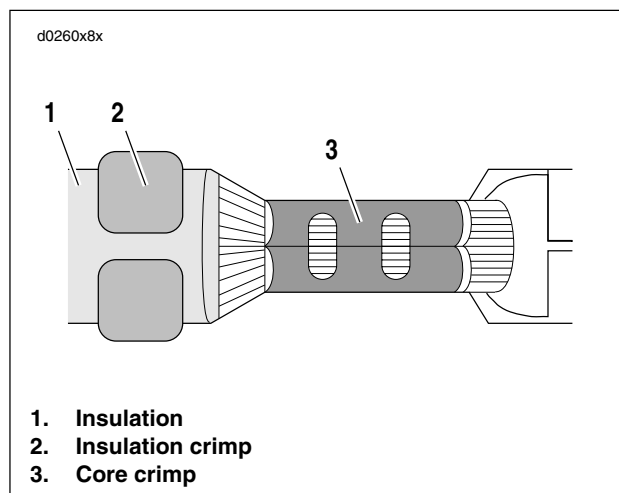

Figure B-16. Inspect Core and Insulation/Seal Crimps
- See Figure B-16. Inspect the quality of the core (3) and insulation/seal (2) crimps. Distortion should be minimal.